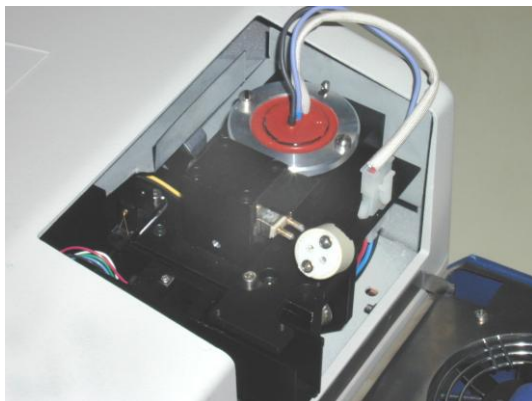

Figure 3-8. Halogen lamp orientation clip and lamp block assembly
5. Loosen, but do not remove, the Allen screw that fastens the lamp orientation clip to the lamp block assembly (Figure 3-8). The screw is located between the orientation clip tab and the base of the halogen lamp.
8. Taking care not to touch the glass bulb with bare hands, install the new halogen lamp with the prongs aligned horizontally (Figure 3-8).